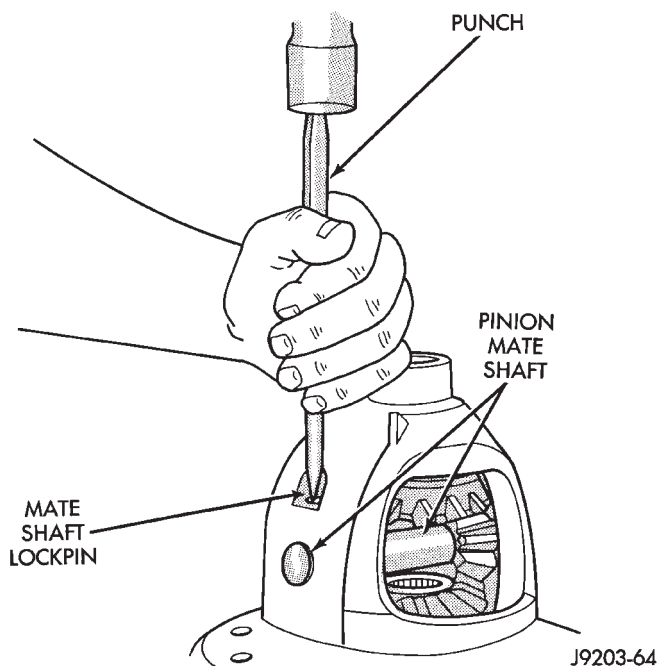

Fig. 52 Mate Shaft Roll Pin Installation
- (1) Install the differential side gears and thrust washers.
- (2) Install the pinion mate gears and thrust washers.
- (3) Install the pinion gear mate shaft. Align the roll pin holes in shaft and the differential case.
- (4) Install the roll pin to hold the pinion mate shaft in the differential case (Fig. 52).